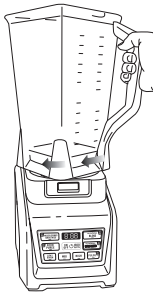

Fig. 2
- 4 Rotate the pitcher clockwise until it clicks in place. As the pitcher rotates, it will lower and the safety tabs on the bottom of the pitcher will slide under the safety tabs on the top of the motor base. (Fig. 2)